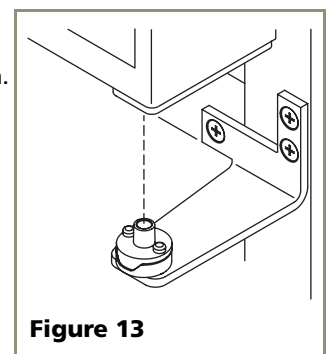

Figure 13
8. Holding door upright with top of door tilted forward, place hole of door pivot plate on bottom hinge screw pin (see **Figure 13**).